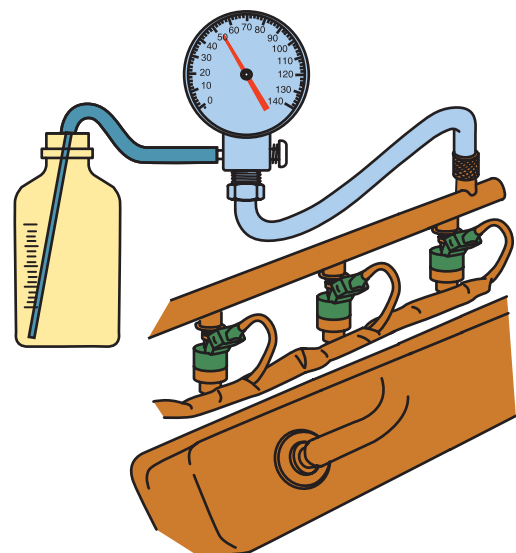

FIGURE 37-26 Testing fuel-pump volume using a fuel-pressure gauge with a bleed hose inserted into a suitable container. The engine is running during this test.
- Good pressure does not mean proper volume. For example, a clogged filter may test okay on pressure but the restriction may not allow proper volume under load. ● **SEE FIGURE 37-26.**